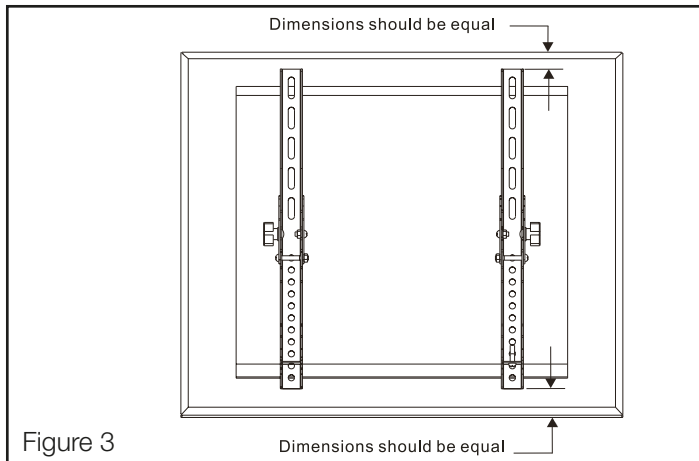
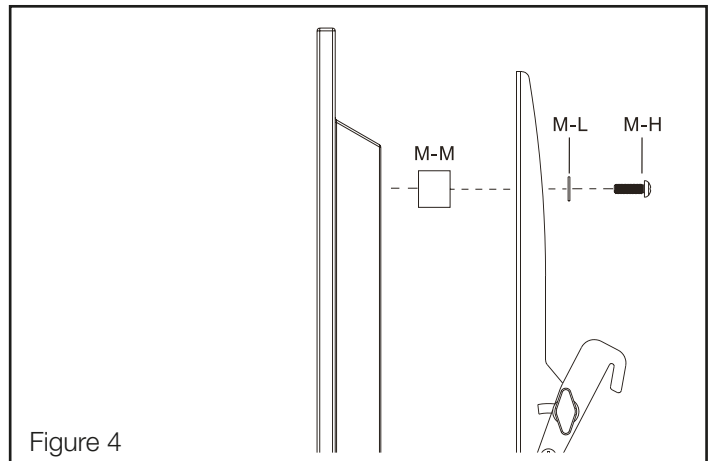

Figure 3
Figure 4
4. Gently put your mounting arms (B and C) on the back of the TV so that the mounting pattern holes are showing through the mounting arm holes (see Figure 3). If the back of your TV is curved or recessed (see Figure 4 and 5) you will also need to use a spacer (M-M or M-N) depending upon the amount of space you are trying to clear. If using spacers you will need to use longer bolts. Remember that the bolt needs to turn at least 3 full turns.